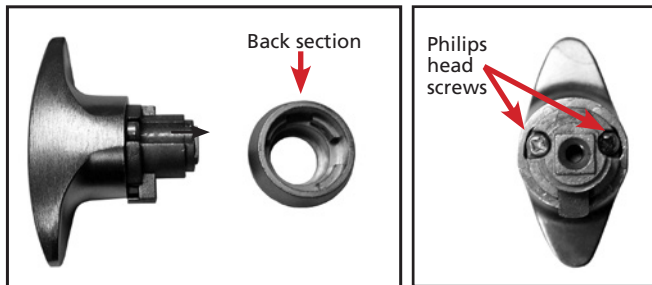

Figure 2
2. Remove the back section of the handle exposing the two Phillips head screws. **(Fig. 2)**